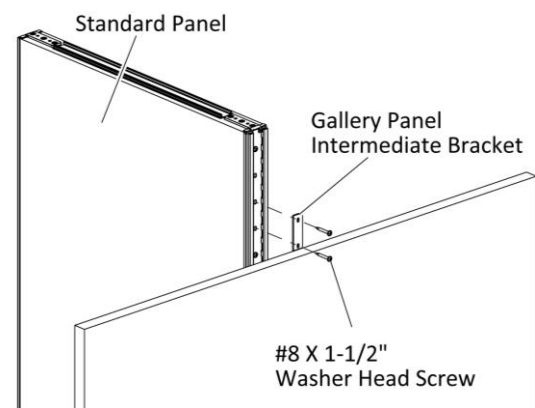

Figure 2
- 4. Drive two #8 x 1-1/2" Washer Head Screws through the holes in the gallery panel intermediate bracket into the standard panel, (Figure 2).